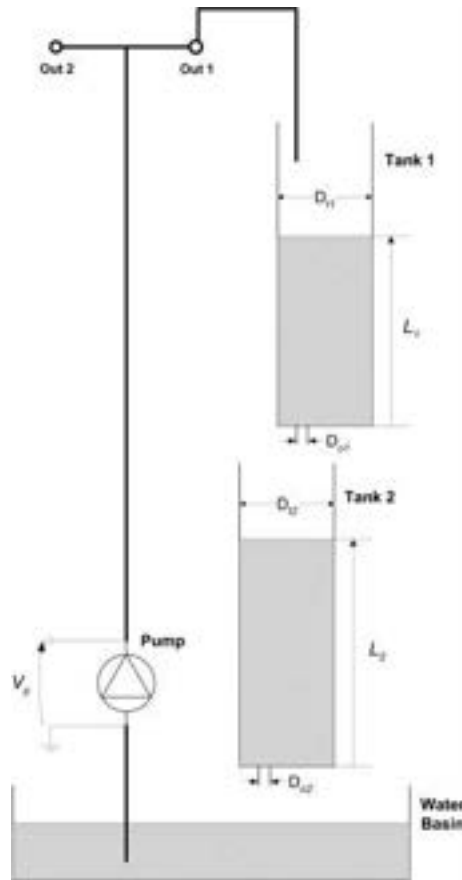

Figure 2.2: Schematic of Coupled Tank in configuration #1.
A schematic of the Coupled-Tank plant is represented in Figure 2.2, below. The Coupled-Tank system's nomenclature is provided in Appendix A. As illustrated in Figure 2.2, the positive direction of vertical level displacement is upwards, with the origin at the bottom of each tank (i.e. corresponding to an empty tank), as represented in Figure 2.2.
5. **A-1, A-2, A-3** Using the notations and conventions described in Figure 2.2, derive the Equation Of Motion (EOM) characterizing the dynamics of tank 2. Is the tank 2 system's EOM linear?